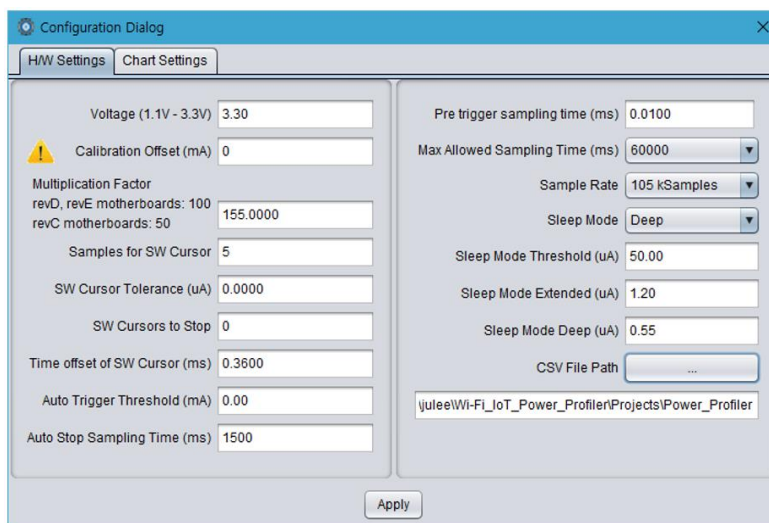

Figure 61. Setting offset to zero
2. In the main window of the Power Profiler, click **Config** and temporarily set the **Calibration Offset (mA)** field to zero as shown in Figure 61.